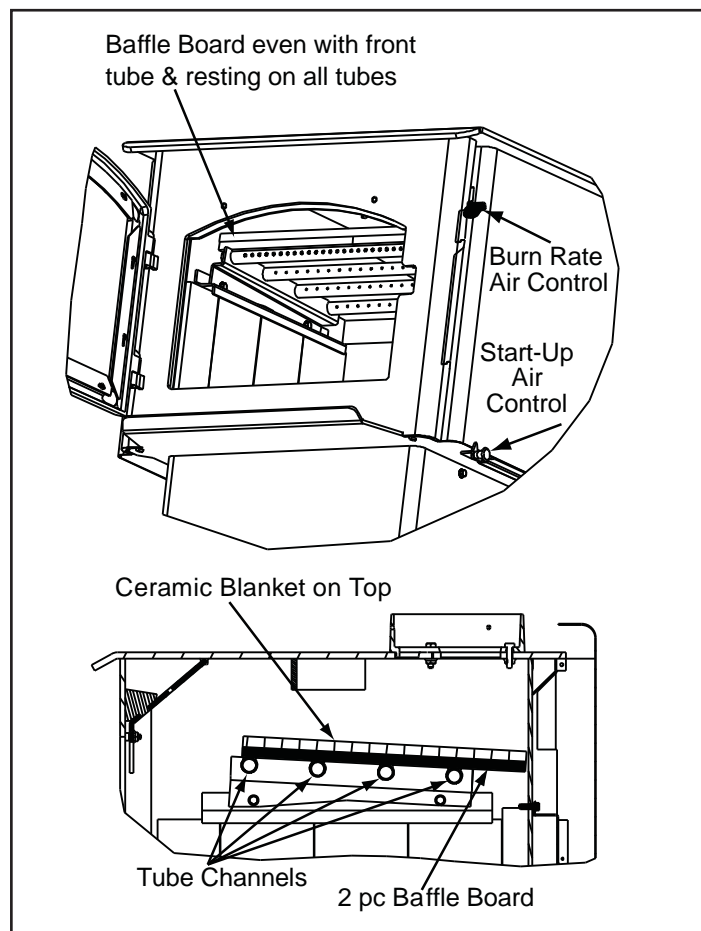

Figure 30.1
1. Confirm the baffle is correctly positioned. It should be even with the front tube and resting on all tubes. **Figure 30.1.**